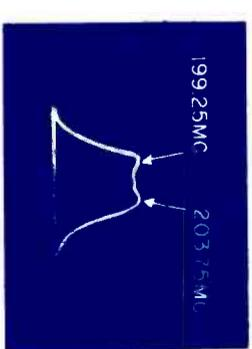

Fig. 29 Channel 11 RF Response.
6. Turn the channel selector to Channel 11 and adjust the sweep generator until a response somewhat similar to Fig. 29 is obtained. Adjust L5 and L6 to obtain symmetry. If the band pass is too great or too narrow also adjust L7.